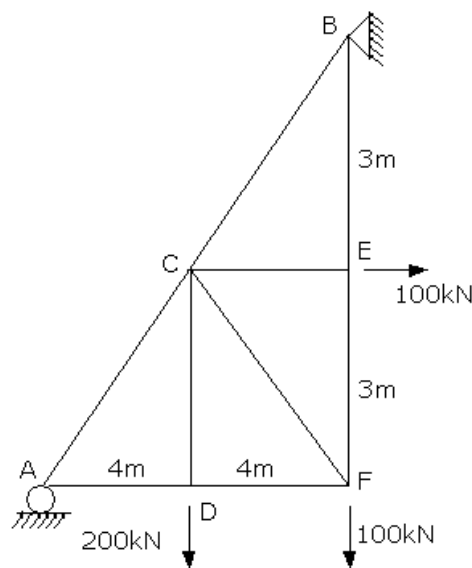

Figure 5
5. Find all the forces in the members of the truss as shown in the Figure 5 a below. [16]